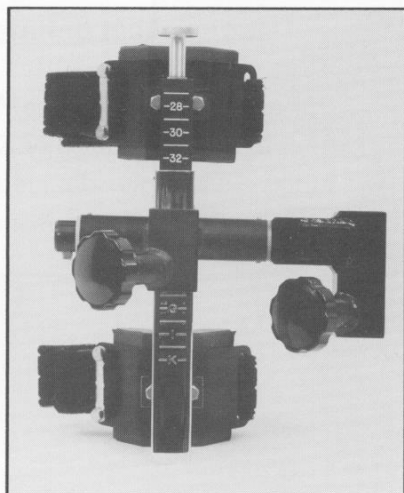

Figure 19
Fig. 19 shows the accessory and pivot tube assembly ready for use on a left knee. Note that locking knob C1 on the pivot tube assembly (I) always the front of the accessory.